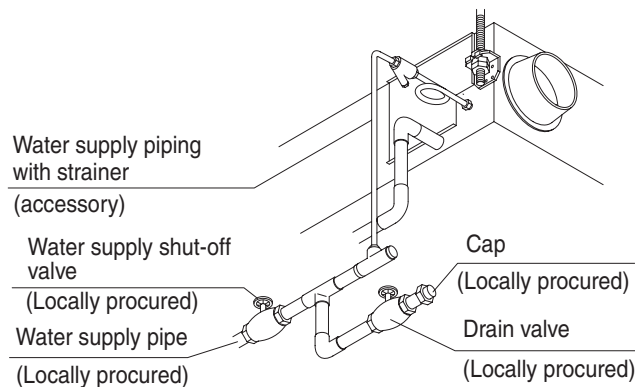

Fig.1
- At first make sure to close the water supply shut off valve and open the drain valve of the water supply piping.(Fig.1)